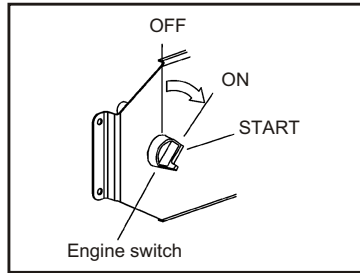

Fig.9 Start the knob view
4.3 Insert the engine key, and turn the engine switch to on position, see Fig.9.